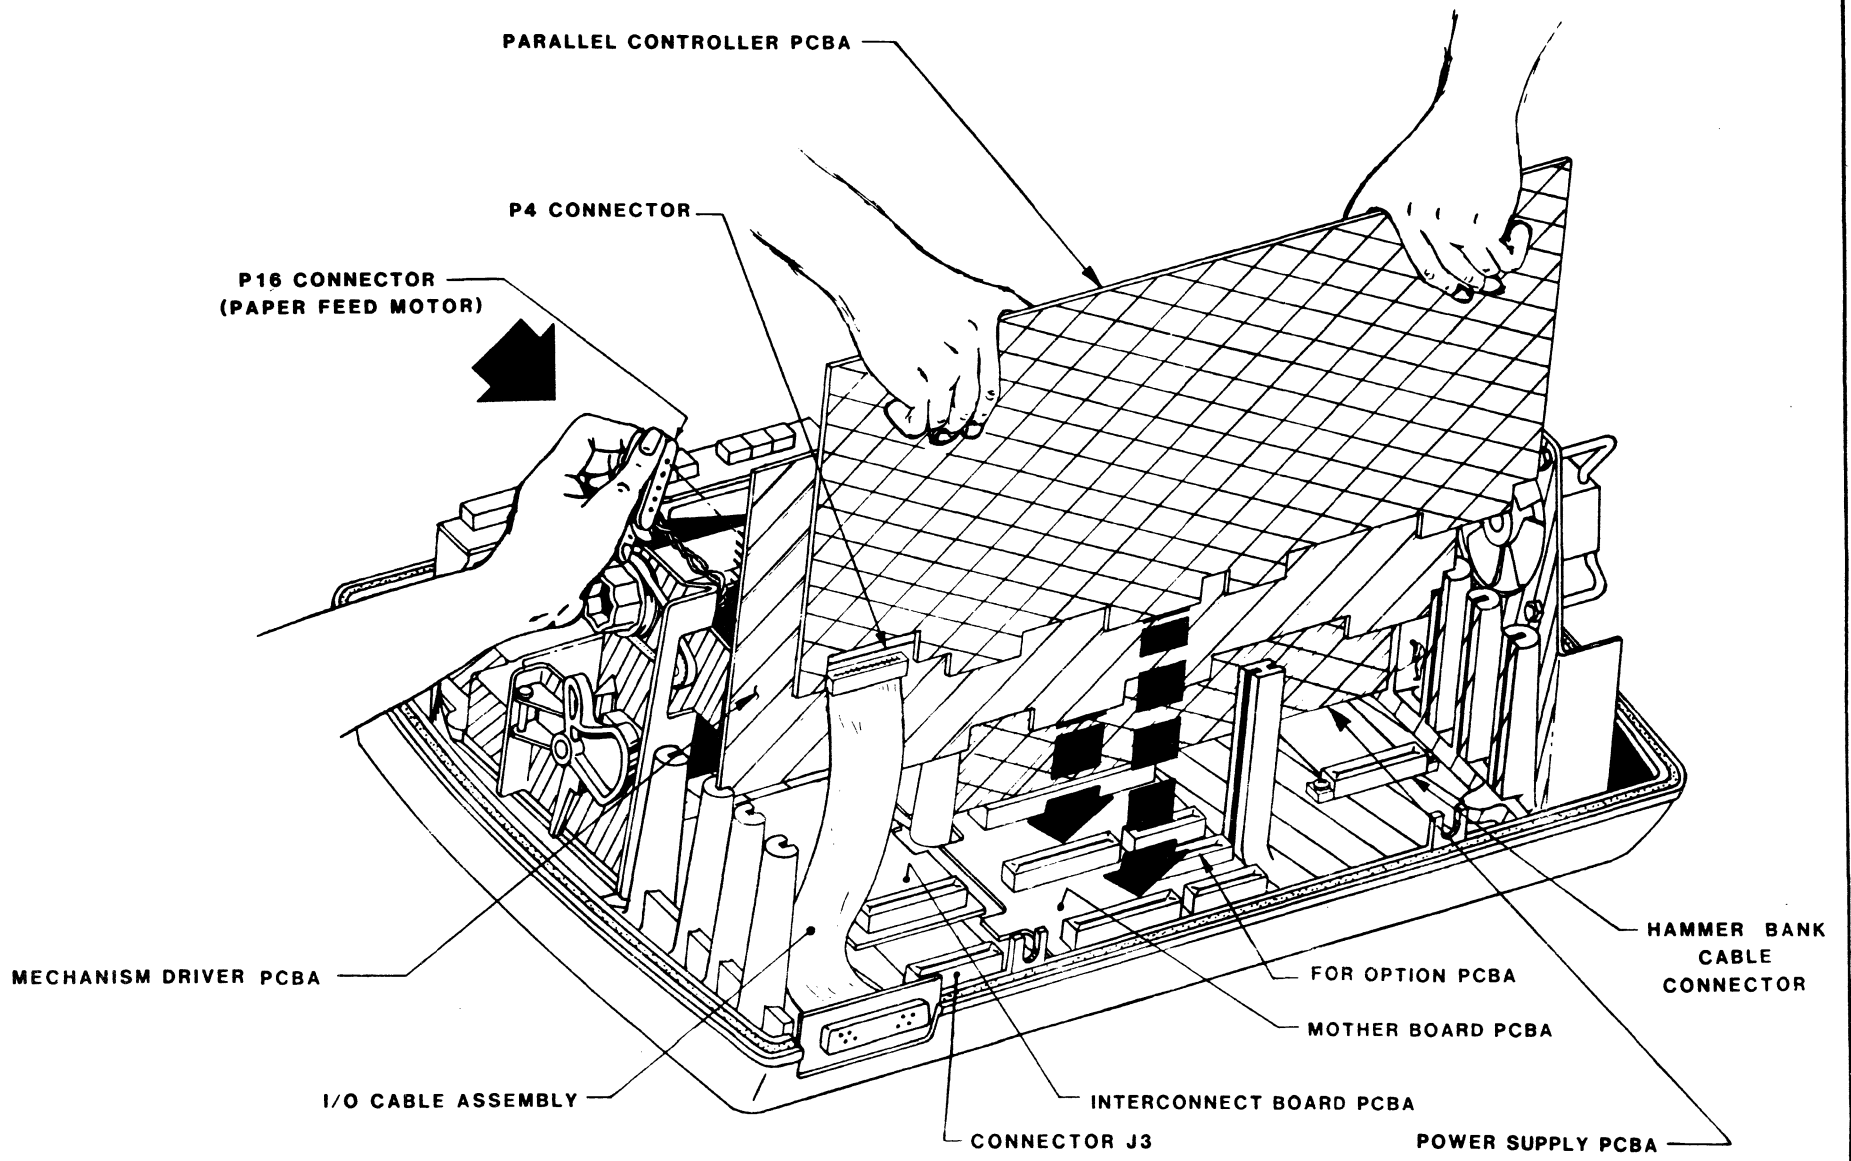

Figure 3-4. Rear View of Printer, Major PCBAs in Place
5. Remove the four hex-head screws from the Interconnect Board PCBA (**Figure 3-4**) and raise the board.
To remove the Parallel Controller PCBA (or the Serial Controller PCBA), refer to **Figure 3-4** and proceed with the following steps:
To remove the Mechanism Driver PCBA, refer to **Figure 3-4** and perform the following steps: